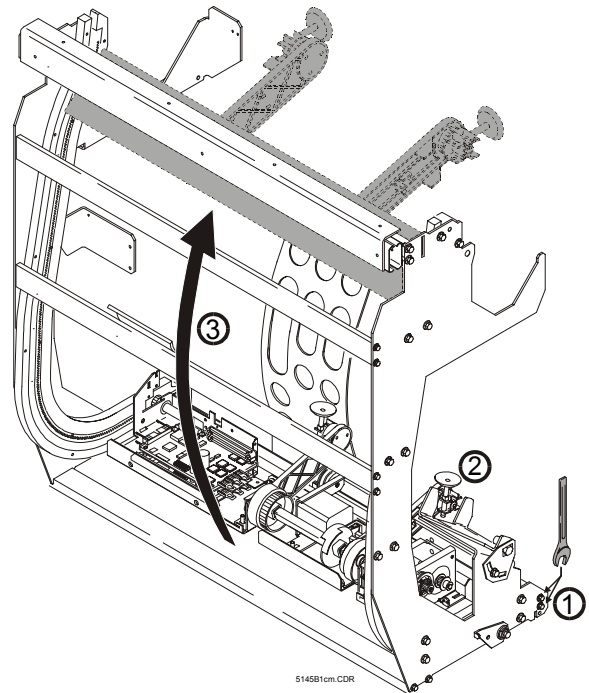

Figure 6
- (1) Pull out the IP transport unit of the digitizer to its stop.
- (2) Move the robot manually half way up (see Figure 6)
- (3) Check visually if the suction cups are parallel (as reference use the guiding plate) and if necessary readjust the suction arms by moving the arms manually into the right position.
- (3) Check if the rib of the suction cup holder of the **input** robot corresponds with the **upper** recess of the suction arm.